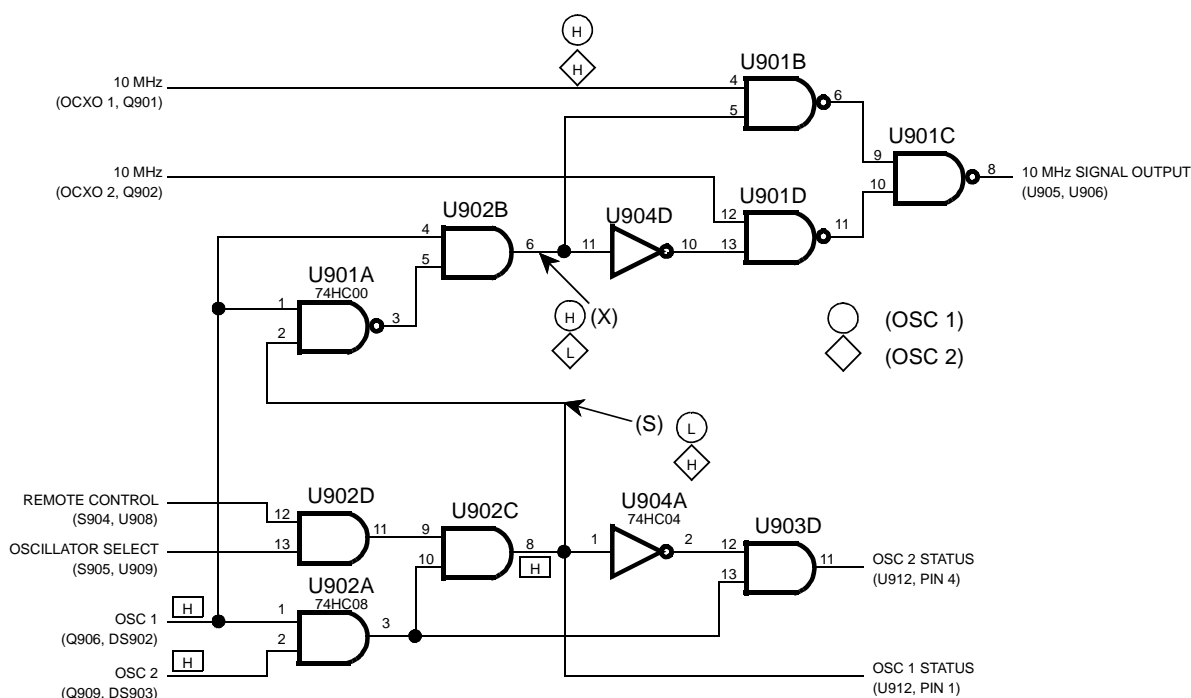

Figure 6-7 OCXO SWITCHING
Refer to the OCXO switching circuitry in Figure 6-7. The circuit is broken down into three levels where various tasks are performed. The bottom section is for remote control input and selecting which OCXO LED should indicate standby. U902A, pins 1-2 (OSC 1 - OSC 2) come from the OCXO pulse detector circuits. A logic high on U902A, pin 1 (OSC 1) indicates that OCXO 1 has output. Likewise, a logic high on U902A, pin 2 (OSC 2) indicates that OCXO 2 has output.
The top section of Figure 6-7 determines whether or not a switch is made to OCXO 2. In this section, an Exclusive OR logic decision is made between inputs (S) and (OSC 1). When U902B, pin 6 (X) is high, OCXO 1 is selected, when it is low, OCXO 2 is selected. If (OSC 1) is low, (X) goes low and OCXO 2 is selected.